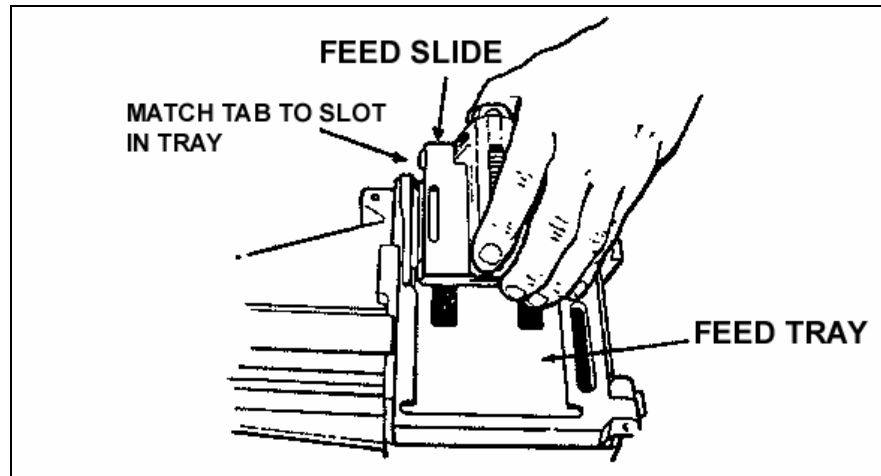

Figure 2-23. Feed slide assembly.
(5) Install feed tray and feed slide assembly by following these procedures (Figure 2-23):